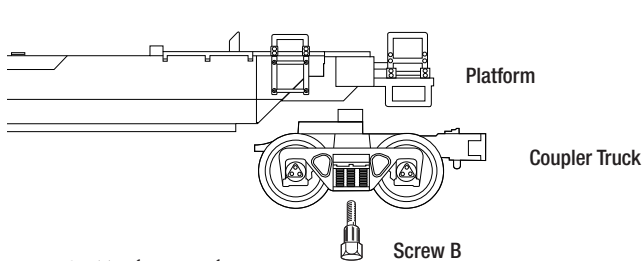

Figure 2a. Truck removal
1. Remove the truck from the non-brakewheel end of the Maxi-Stack Set using a 3/16" nut driver to remove the hex-head screw (labeled "B" on page 2) from the bottom of the truck. See figure 2a.